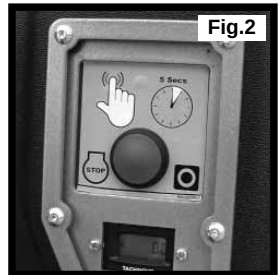

Fig.2
1. To stop the engine, set the throttle control to idle (See Fig. 1), then pull red stop handle until the engine stops (See Fig. 2).